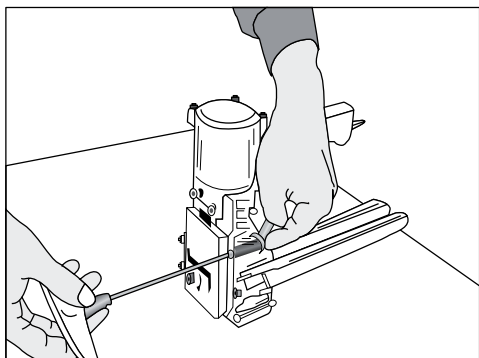

Figure 31
1. Remove screws and nut with 8 mm spanner wrench and 4 mm Allen wrench. (See Figure 31)